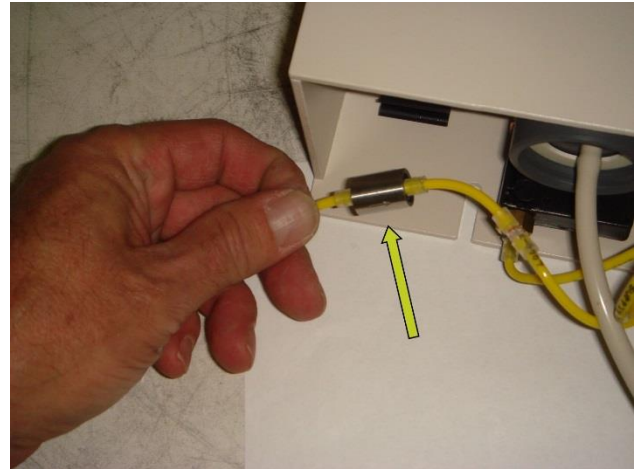

Fig. 4
- Slide supplied tubing sleeve over cut end of yellow tubing then attach new regulator by inserting into tubing. Once you have inserted the regulator into the tubing slide tubing sleeve over the connection to secure it. (Fig. 4)